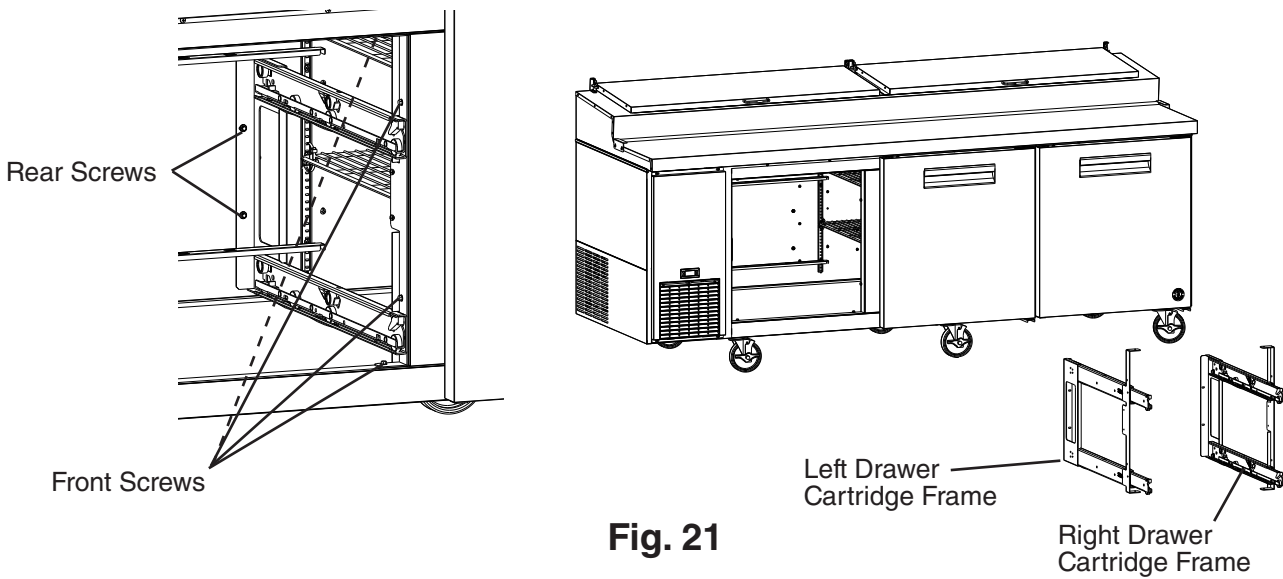

Fig. 21
- 4) Remove the 4 rear screws from the left and right drawer cartridge frames (2 per side). See Fig. 21.